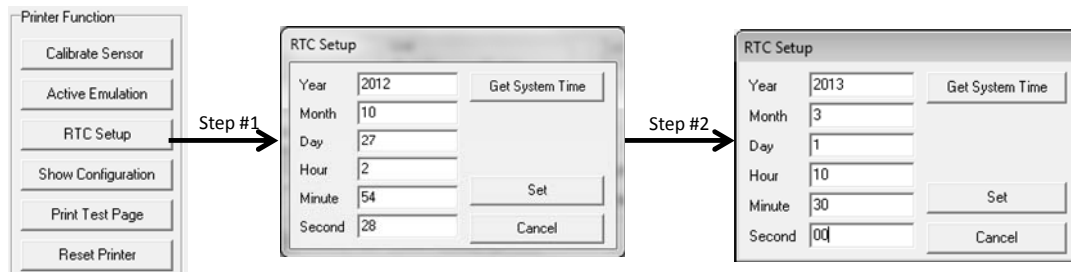

Figure 26. Real Time Clock Setup
1. Click the “RTC Setup” button under Printer Function. The values shown in the fields will be the current clock setting in the printer. See Step #1 in Figure 26.
2. Click “Get System Time”. This will populate the fields based on the current time of the PC running the Configuration Utility. See step 2 in Figure 26.